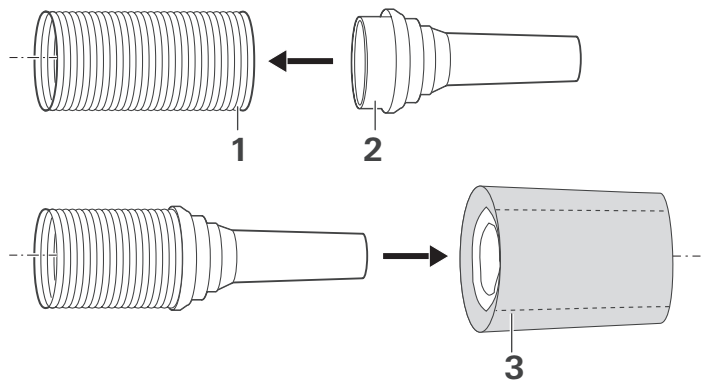
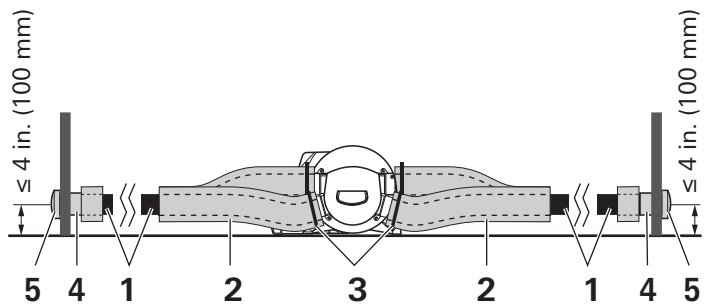

Fig. 19
Fig. 20
4. Slide the 3 in. insulating sleeve (Fig. 19 – 3) and cable tie (Fig. 20 – 3) onto the warm air duct **AD 65** (Fig. 19 – 1). If necessary, use the tool supplied by Truma (Fig. 19 – 2) to do this.
5. Insert the **AD 65** warm air duct (Fig. 20 – 1) into the furnace's warm air outlet until it fits snugly. Metal clips in the warm air outlets hold the ducts in place.
- Secure the insulating sleeve to the **AD 65** warm air duct (Fig. 20 – 1) tightly to avoid slipping of insulation around duct, for example by using cable ties (Fig. 20 – 3).